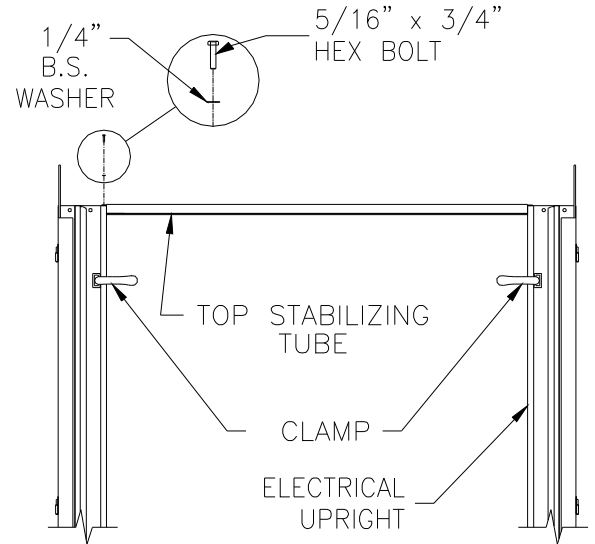

FIG. 5
- Clamp one Upright flush to edge of a door jamb with mounting holes against wall and anchor plates at the bottom (Figure 5).